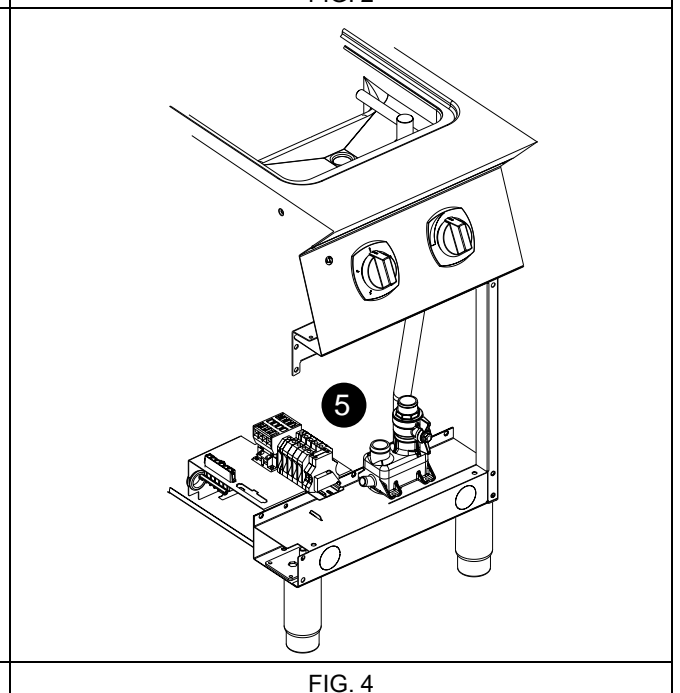

FIG. 4
3. Connect the pressure gauge "O" (see FIG. 4).
5. Connect the power cable to the terminal block according to the wiring diagram provided with the appliance (see detail 5 —FIG. 4).